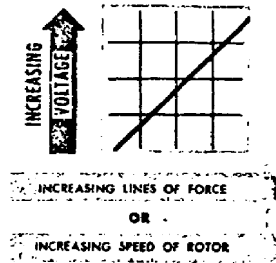

Figure 20. Induced voltage.
e. The amount of the voltage induced in a conductor is proportional to the number of lines of force which cut across the conductor in a given length of time. Therefore, if the number of lines of force are doubled, the induced voltage will be doubled. The voltage will also increase if the bar magnet is made to turn faster, because the lines of force will be cutting across the wire in a shorter period of time (fig 20).